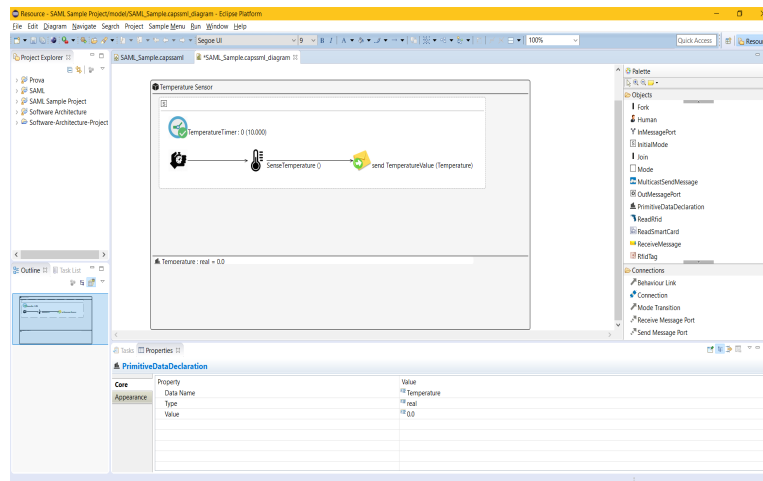

Figure 2.14: The final result
A **PrimitiveDataDeclaration**, let's you to specify the variables of the component (figure 2.14). Select the **TimerFired** item and in the properties section, find **Timer**, double click to the menu after it and select the name of the timer you have created. Select the **SenseTemperature** item and, in the properties view, set the following parameters.
- Now, in the connection subview of the palette select behaviour link and connect the **TimeFired** with the **SenseTemperature** (from the first to the second one). Do the same thing from the **SenseTemperature** to the message (figure 2.14);